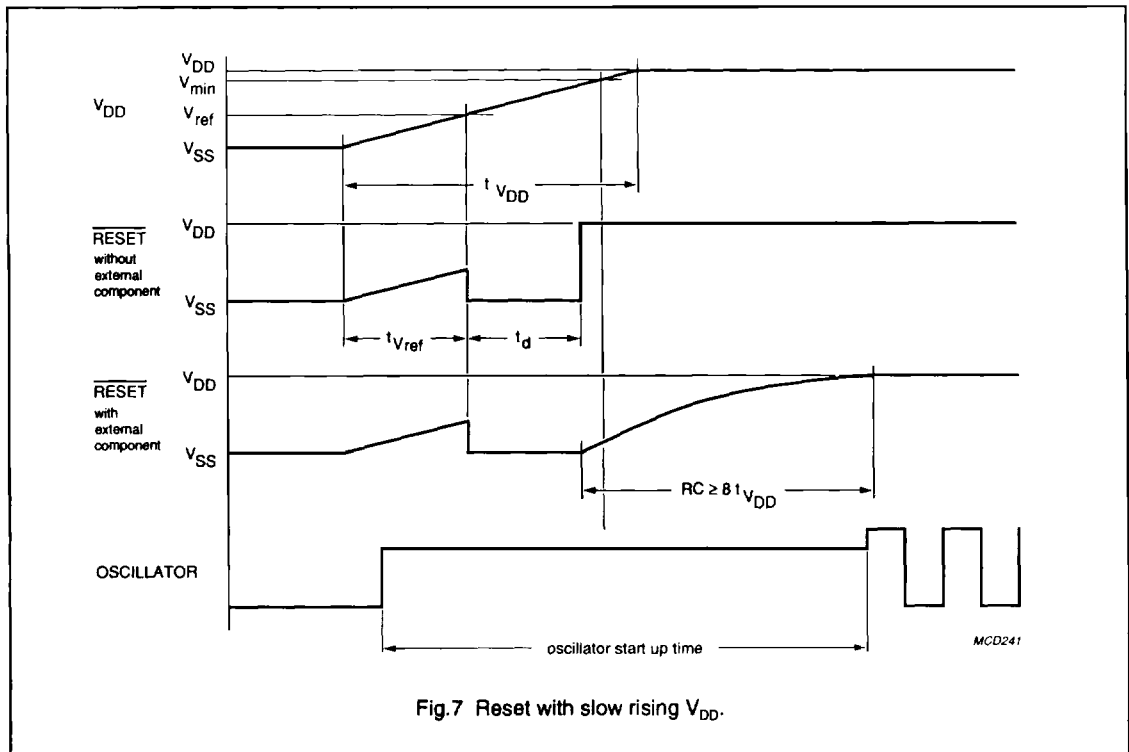

Fig.7 Reset with slow rising  $V_{DD}$ .
3. External components are required if  $V_{DD}$  has a slow rise time, such that after the time period ( $t_{Vref} + t_d$ ) has elapsed the supply voltage is still below the minimum operation voltage ( $V_{min}$ ). See Figs 7 and 4. In order to ensure a correct reset operation the time constant RC must be  $\geq 8t_{VDD}$ .